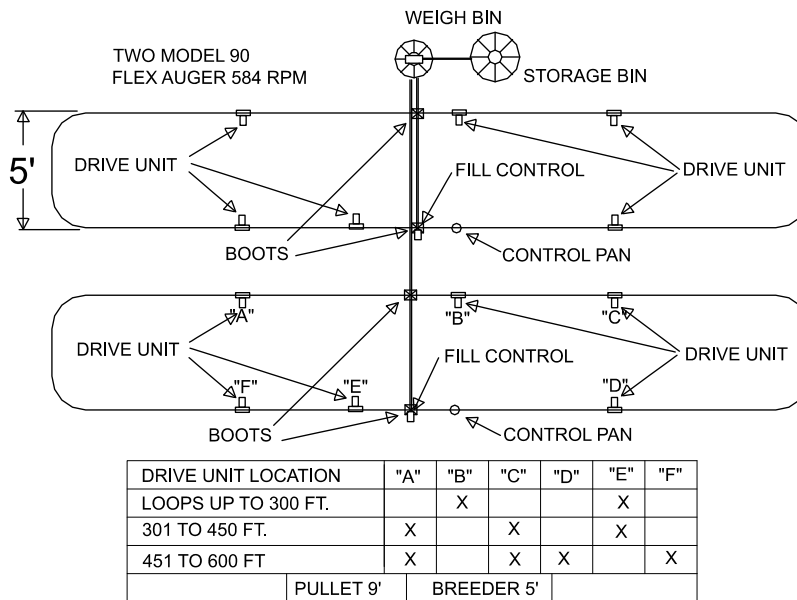

Figure 2. Breeder Feeder Planning
2. **Figure 2. on page 8**, shows the proper suspension system for all feeder line lengths. Notice additional support must be provided at each feeder boot, power unit, and elbow location.